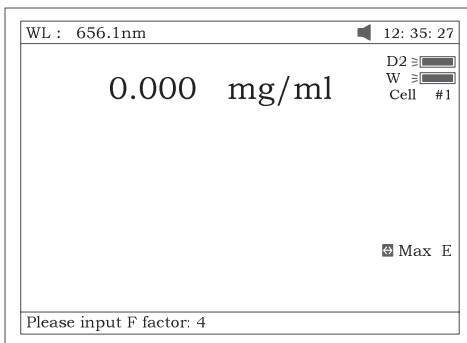

Fig 22
- 4.1 Press **【F3】** to input known F value, Fig 22. Then push the sample into